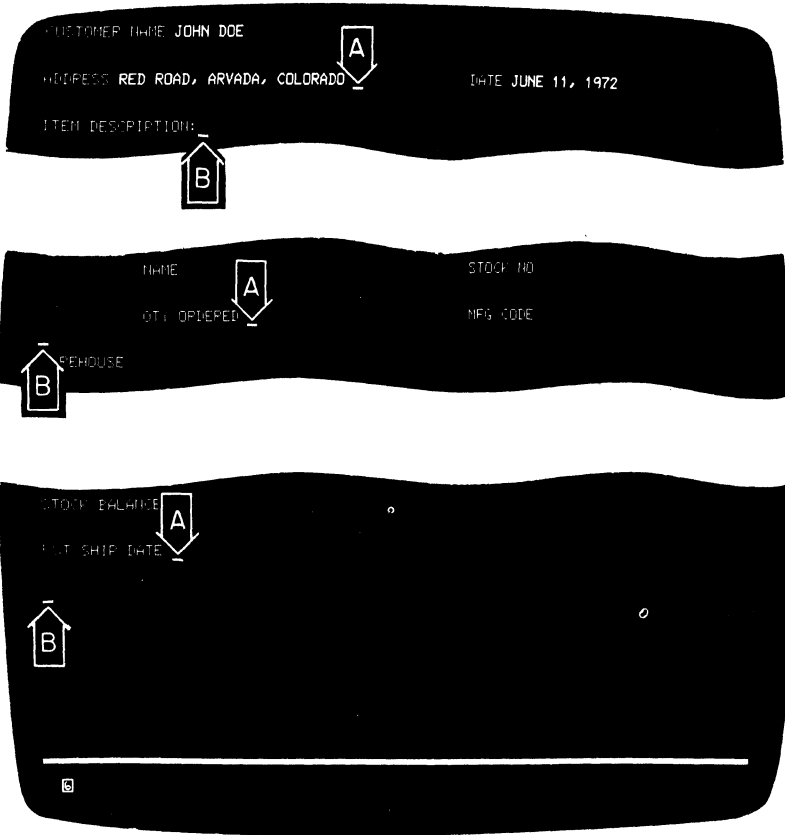

Figure 3-12. New Line Key Operations
- a. *A character position within the next line*, as shown in the top example in Figure 3-12. In this case, the cursor is placed in the first input character location past the protected field called "ITEM DESCRIPTION".
- b. *The first character position in the next line*, as shown in the middle example of Figure 3-12. In this case, there is no protected field or character present at the first character position in the next line; therefore, the cursor is positioned at the left margin in the next line.